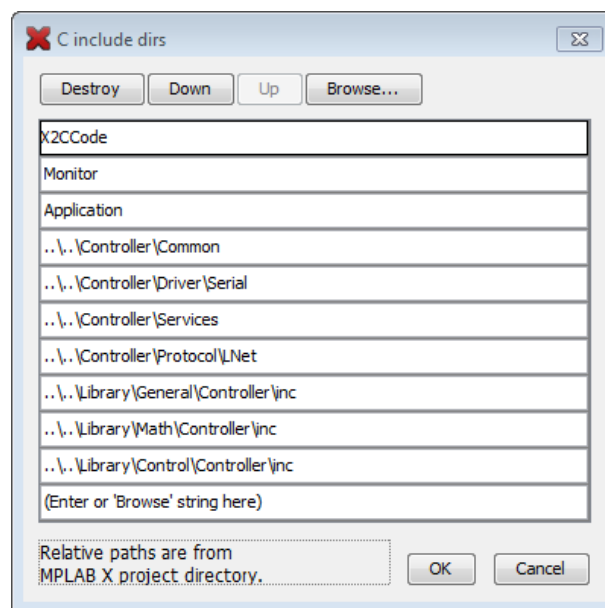

Figure 29: Default path variables for the include files
3. In the case the demo application is copied/moved to a different location, the include paths have to be adapted. To ensure the compiler uses the correct path variables right click on the **Projectname** → **Properties** → **XC16 Global Options** → **xc16-gcc**. In the drop down menu **Option categories** choose **Preprocessing and messages**. Click on the dots beside **C include dirs**. There are relative paths to the needed include files listed as seen in Figure 29. Correct the links by double clicking on the path variables.